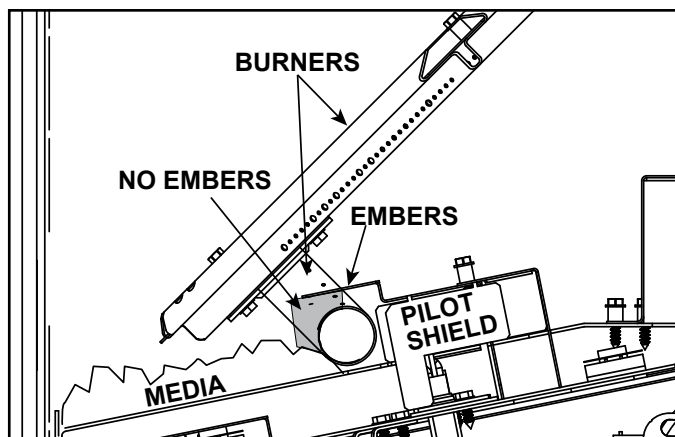

Figure 19 Embers Not Allowed - Side View
- Embers are not allowed in gray zone noted in Figure 19. Failure to follow this procedure could cause ignition issues.